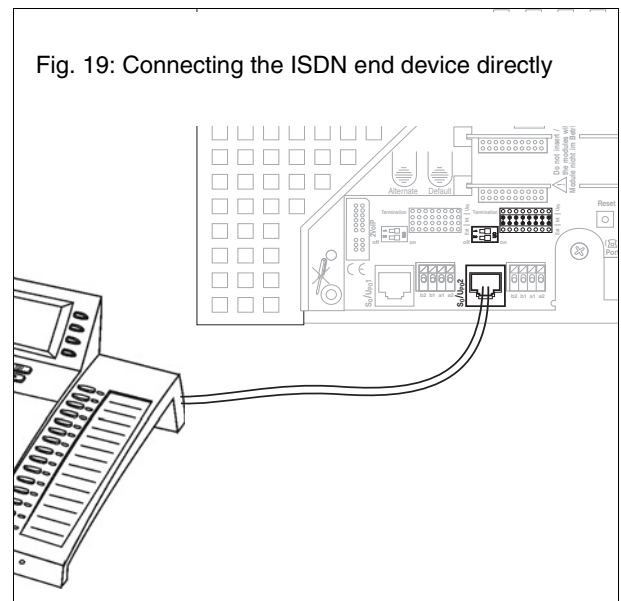

Fig. 19: Connecting the ISDN end device directly
1. Single end device: Connect the end device as shown in Fig. 19 to an internal S0 port.